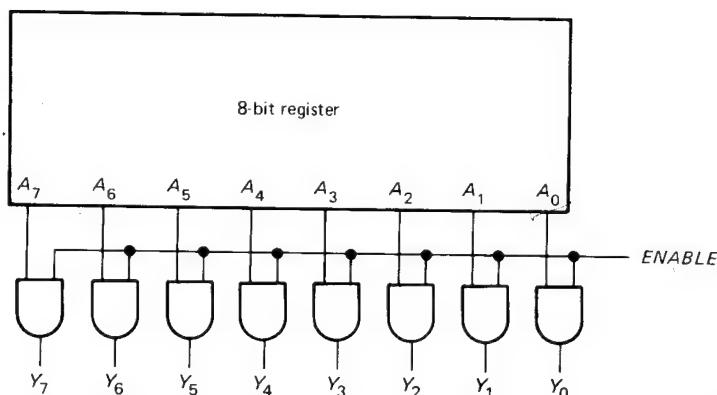

Fig. 2-19
- 2-10. Visualize the register contents of Fig. 2-19 as the word $A_7A_6 \dots A_0$, and the final output as the word $Y_7Y_6 \dots Y_0$. What is the output word for each of the following conditions:
- 2-11.** The 8-bit register of Fig. 2-19 stores 59₁₀. What is the decimal equivalent of the final output word if *ENABLE* = 0? If *ENABLE* = 1?